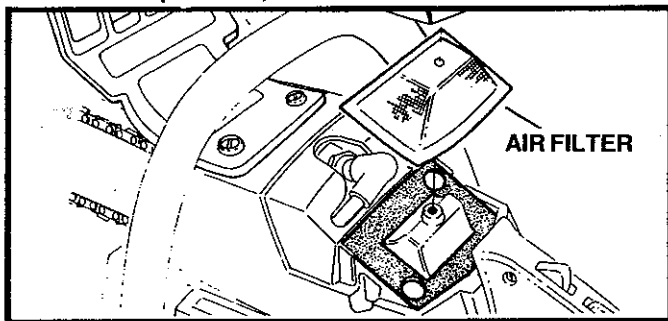

Figure 50
3. Remove the carburetor cover. Figure 50.